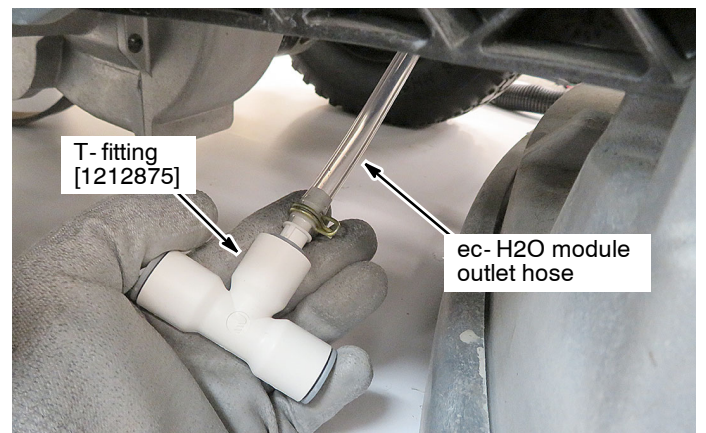

Fig. 13
12. Connect new T-fitting [1212875] to the routed ec- H2O module outlet hose as shown (Figure 13).